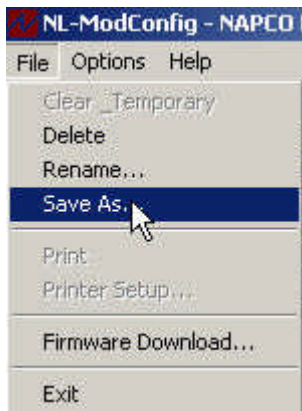

Figure A7.
18) Click **File/Save As**. Refer to figure A7.